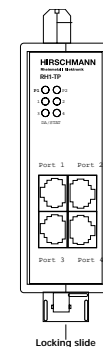

Fig. 8: Dismantling the RH1-TP
- Suspend the upper snap-in hook of the RH1-TP in the ISO/DIN rail, insert a screwdriver horizontally under the housing into the locking slide pull this downwards (cf. Fig. 8, dismantling) and press